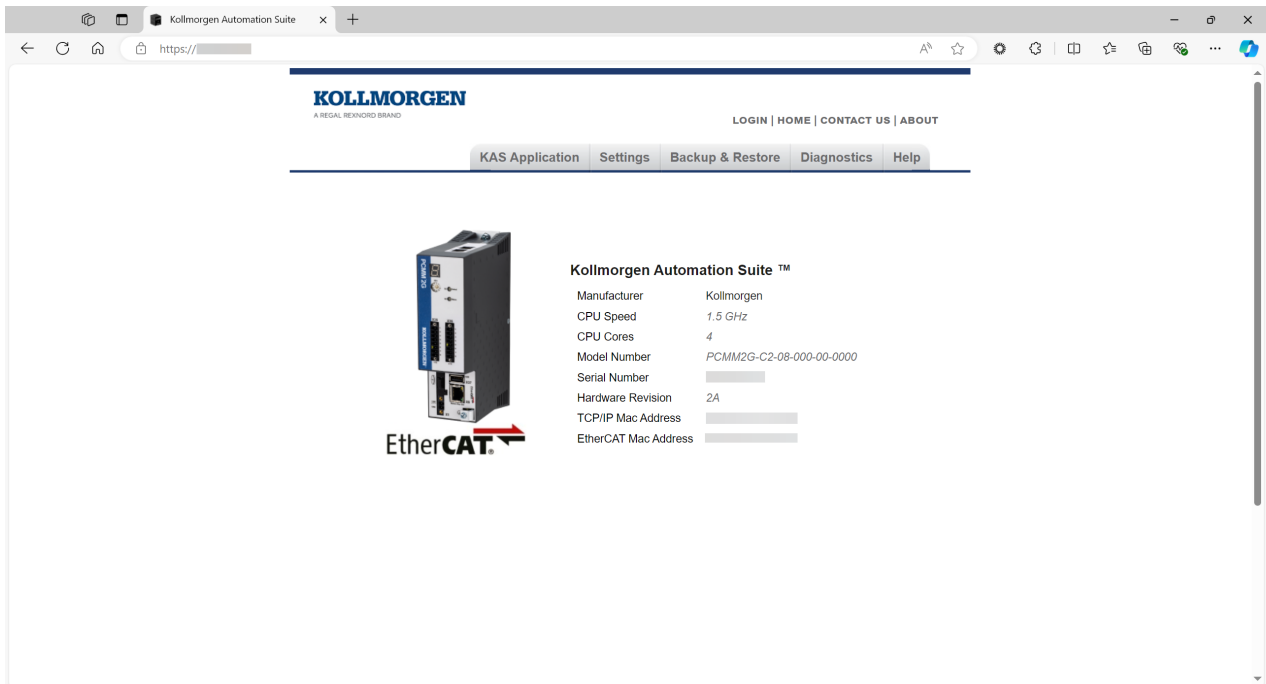

Figure 9-41: Secure PCMM2G
35. Open a new web browser instance and use the URL to connect to the Web server. The PCMM2G shows it is secure. (Figure 9-41)